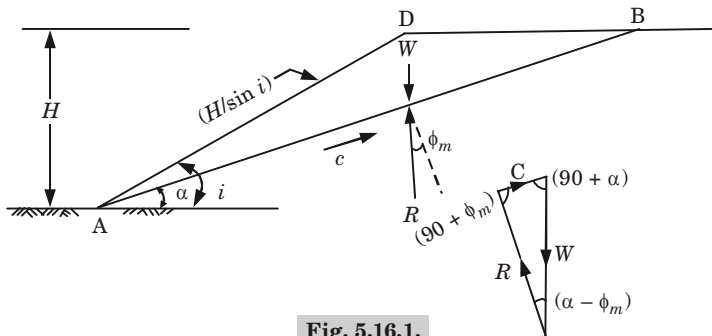

Fig. 5.16.1.
1. Let us consider the equilibrium of the triangular wedge ABD formed by the assumed failure surface AB as shown in Fig. 5.16.1. The wedge is in equilibrium under the three forces :
- i. Weight of the wedge (W).
2. The triangle of forces is also shown in Fig. 5.16.1. The magnitude and direction of W and c are known. The direction of R is also known. The weight of the wedge is given by,